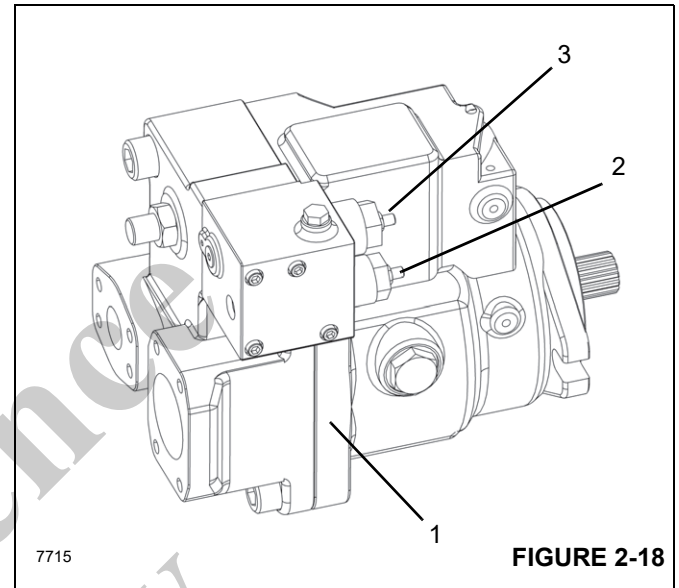

FIGURE 2-18
The Load Sense (LS) standby control (2, Figure 2-18) matches pump flow with system demand. The LS control senses the flow demand of the system as a pressure drop across an External Control Valve (ECV). As the ECV opens and closes, the pressure delta across the valve changes. Opening the ECV decreases the delta and closing the ECV increases the delta. The LS control then increases or decreases pump flow to the system until the pressure delta becomes equal to the LS setting. The advantage of the load sense control system is only the amount of flow required to do work is pumped through the system. This increases efficiency and reduces system temperature.
- An adjustable maximum setting by the Pressure Compensator (PC) [3], Figure 2-18 section of the pump control.